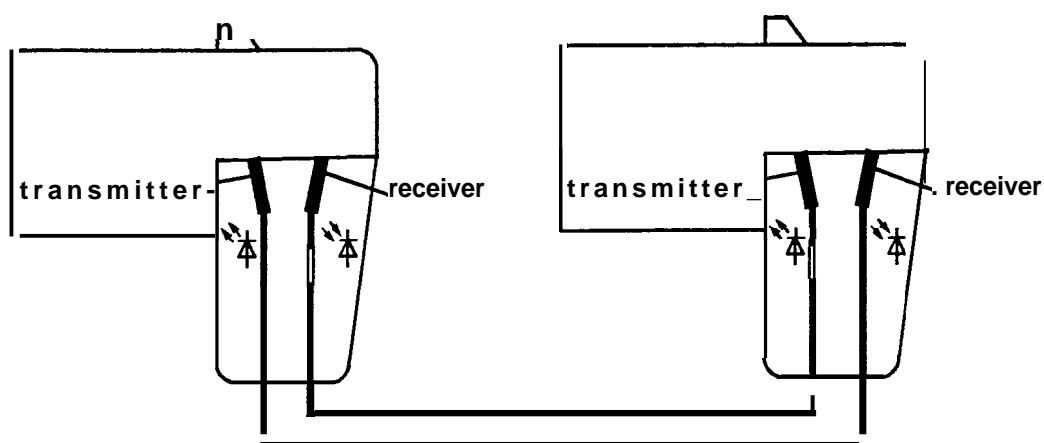

Figure 5-2. Connecting the Fiber Optic Cable to the Transmitter and Receiver
- Connect the two wave guides with the bayonet catch as shown (→ Figure 5-2). The cable must be connected in **such a way that the same core serves a transmitter and a receiver**. One of the cores is identified by a ring.